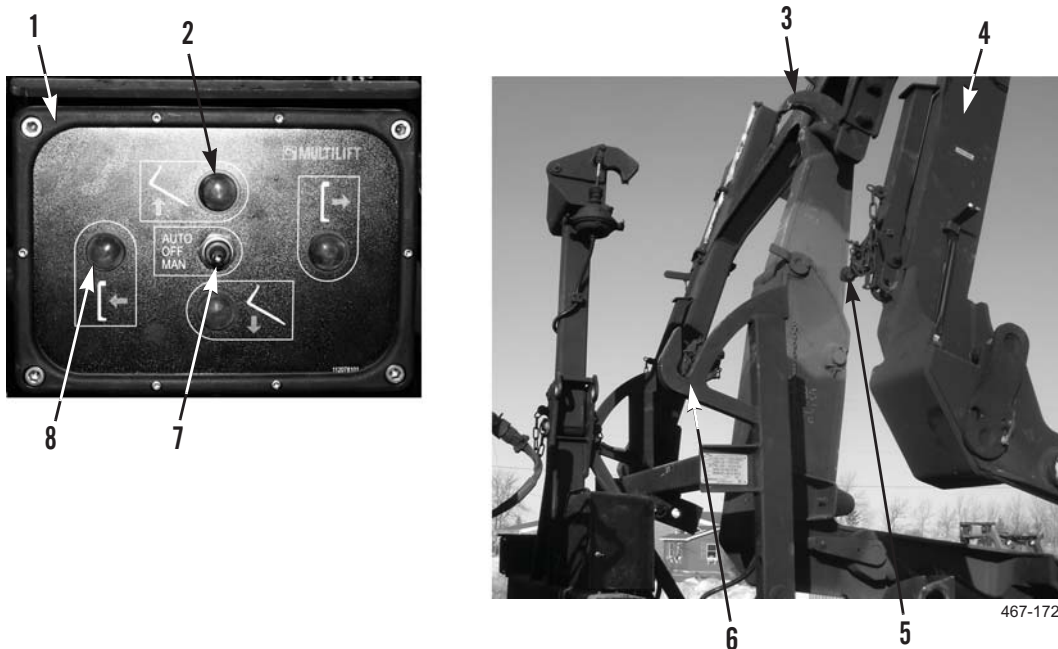

Figure 8. Retrieve Lift Frame - Stage 2.
1. At stowage control panel, press and hold UP button (Figure 8, Item 2) until hook arm stops. Release UP button.
2. Verify both stowage rollers (Figure 8, Item 5) are clear of stowage guide rails (Figure 8, Item 6).
3. If stowage rollers (Figure 8, Item 5) are not clear of guide rails (Figure 8, Item 6), press and hold UP button (Figure 8, Item 2) again.
4. Press and hold STOW button (Figure 8, Item 8) until stowage guide (Figure 8, Item 6) stops at fully forward position. Release STOW button.
5. Set stowage toggle switch (Figure 8, Item 7) to OFF position. Lift frame (Figure 8, Item 4) should now be supported in hook (Figure 8, Item 3) and ready to be unloaded.